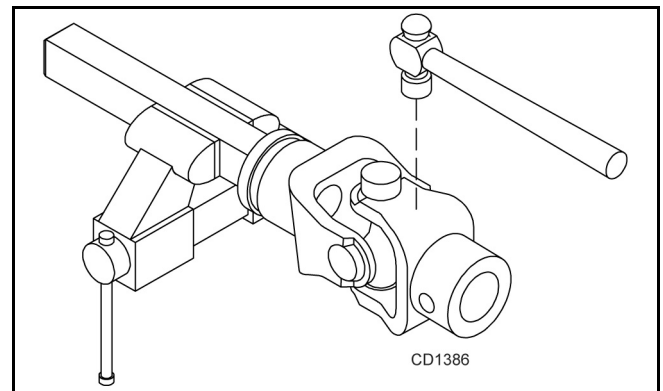

Figure 18
2. With snap rings removed, support drive in vise, hold yoke in hand and tap on yoke to drive cup up out of yoke. See Figure 18.